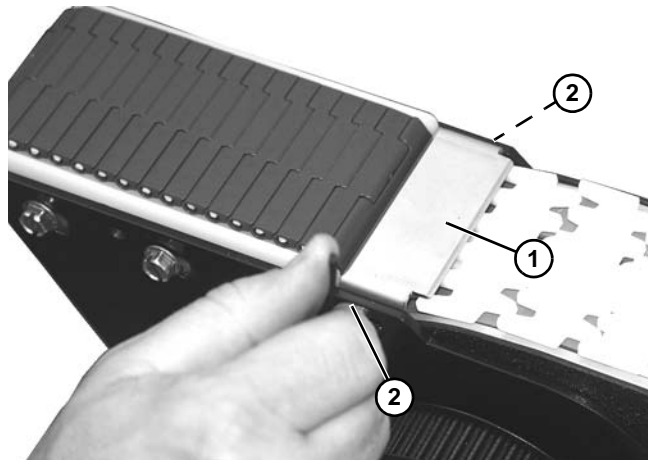

Figure 176
8. Install pinch guard (Figure 176, item 1) with two socket head screws (Figure 176, item 2).